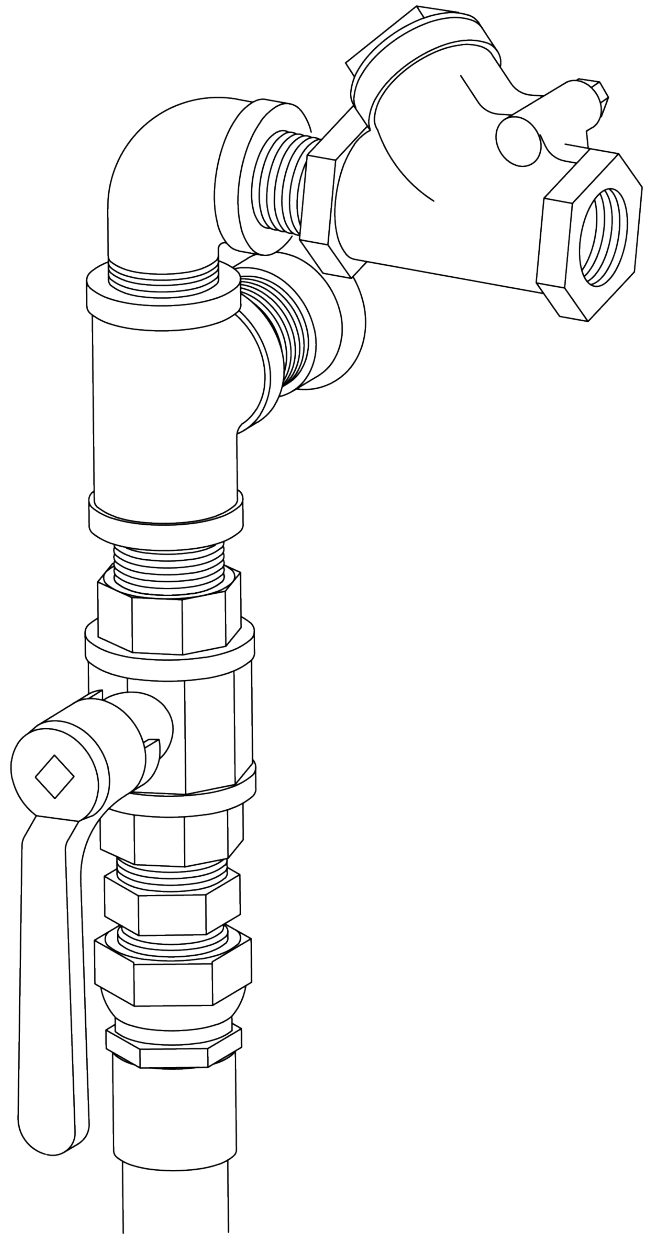

**FIGURE 10**
**4.6.1** | Keep choke valve, see **Figure 10**, fully open during blasting (handle aligned with piping).